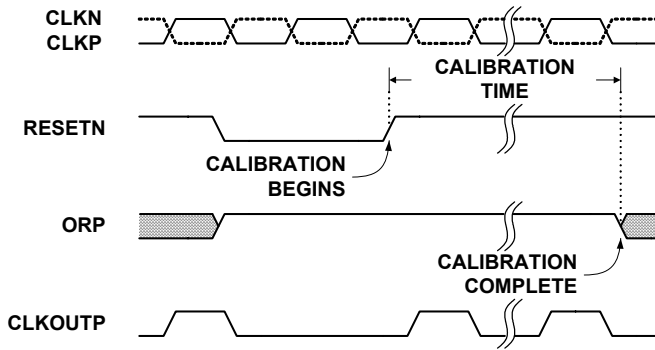

FIGURE 21. CALIBRATION TIMING
The calibration sequence is initiated on the rising edge of RESETN, as shown in Figure 21. The over-range output (OR) is set high once RESETN is pulled low, and remains in that state until calibration is complete. The OR output returns to normal operation at that time, so it is important that the analog input be within the converter's full-scale range to observe the transition. If the input is in an over-range condition, the OR pin will stay high, and it will not be possible to detect the end of the calibration cycle.